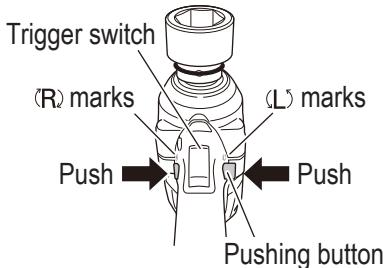

Fig. 13
The L-side of the pushing button is pushed to turn the bit counterclockwise (See **Fig. 13**) (The (L) and (R) marks are provided on the body).